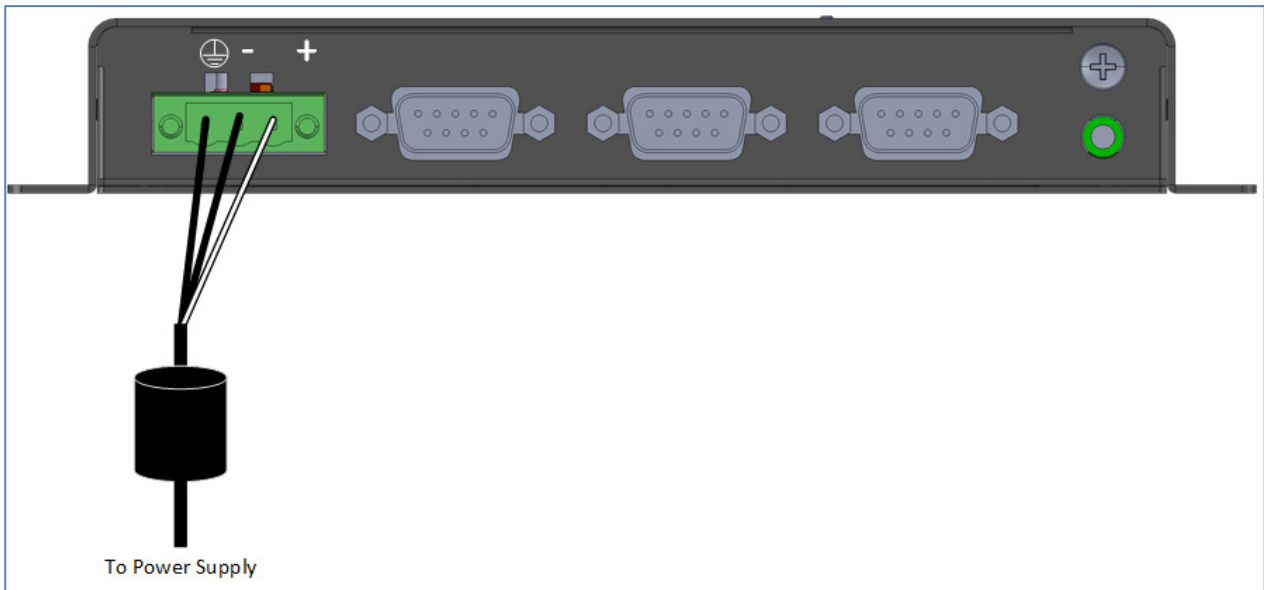

Figure 9: CommBox Power Supply Wiring
- The CommBox comes with the power supply wired to the unit. See Figure 9.